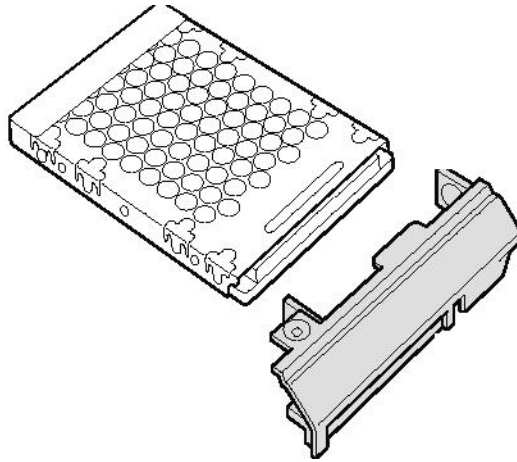

Figure 12-16.- A31p Hard Drive cover removal.
8. Remove cover from A31p Hard Drive (refer to figure 12-16)